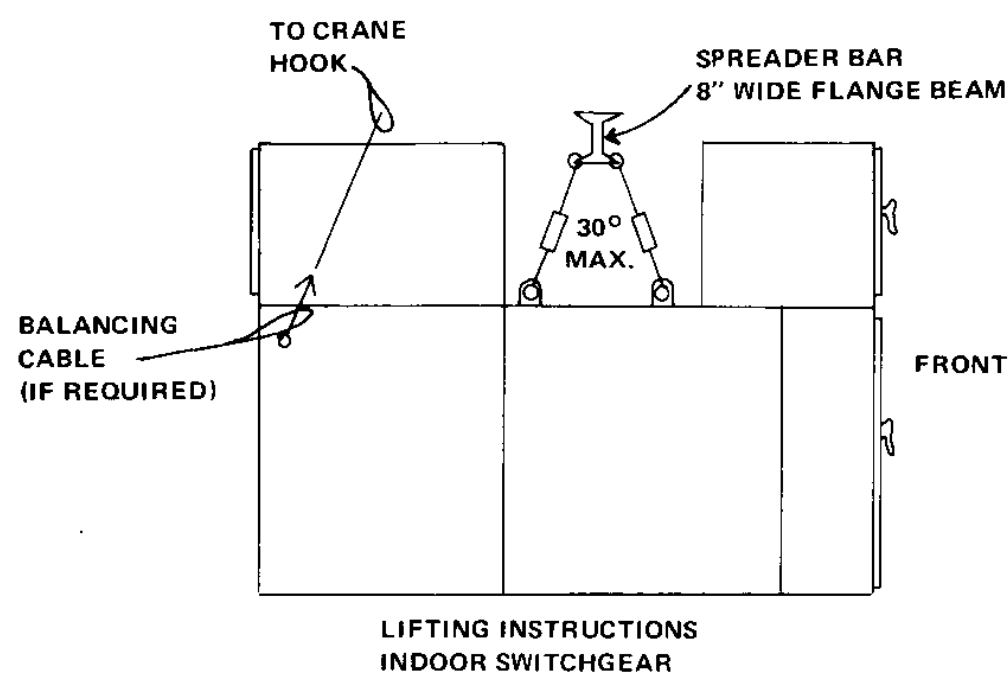

Figure 2-3.
3. Before lifting load completely off shipping skid, check load for balance. If necessary, add balance cables to ends to shipping section as shown in Figure 2-3.